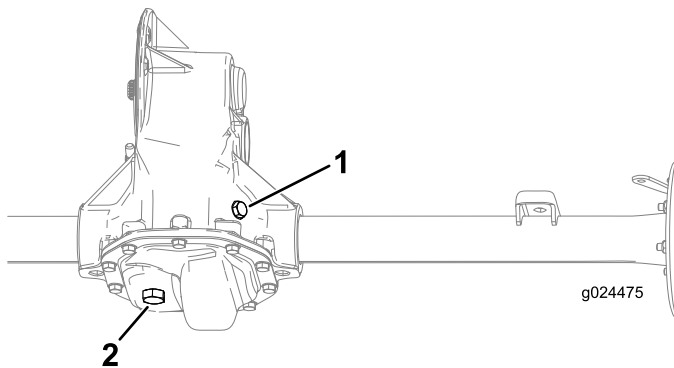

Figure 36
2. Remove the fill plug on the transaxle (Figure 36).
3. If the oil level is low, remove the fill plug and add the specified oil until it runs out of the hole (Figure 36).
1. Align a drain pan under the drain plug (Figure 36).
2. Remove the fill plug and the seal (Figure 36).
3. Remove the drain plug and the seal, and allow the oil to drain completely (Figure 36).